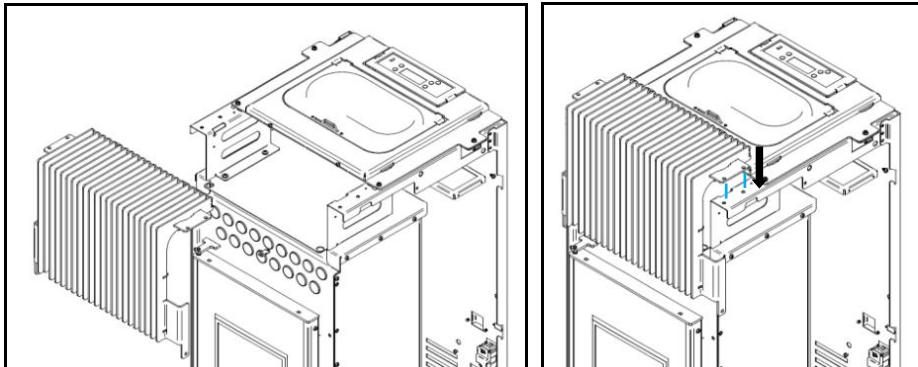

Figure 34 - Fitting the front grille
- b) On **Pine, Leaf and Aspen** equipment. Fit the front grille, matching the holes in the grille to the holes in the appliance (Figure 34).